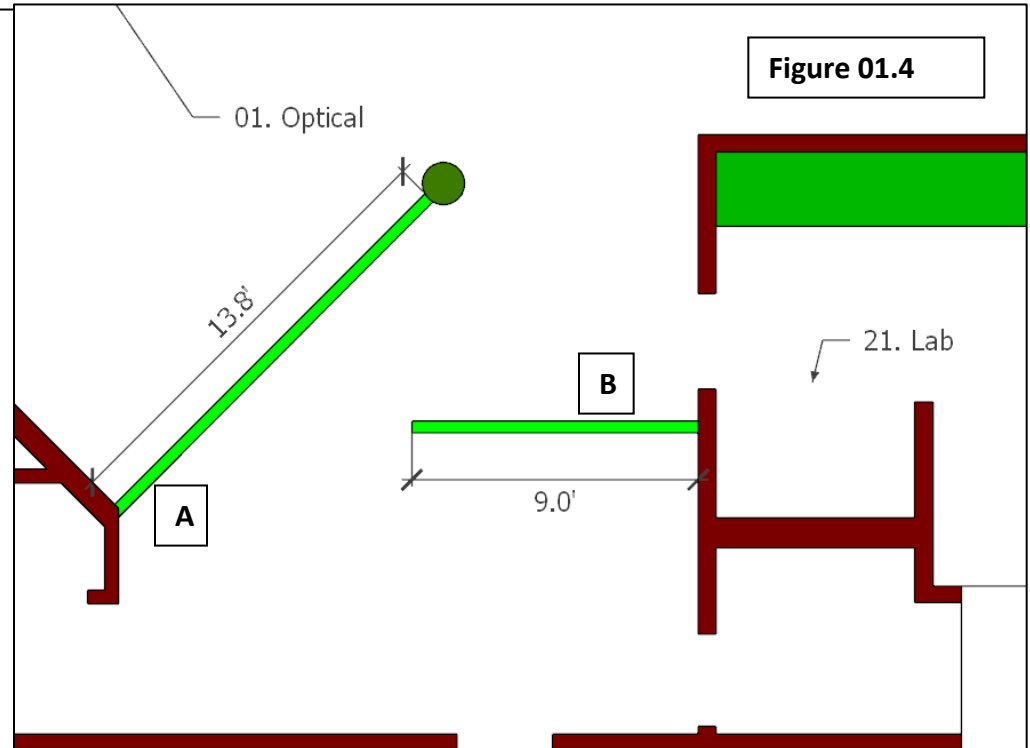

Figure 01.4
- i. Construct new walls A and B (shown in green in figure 01.4) near lab